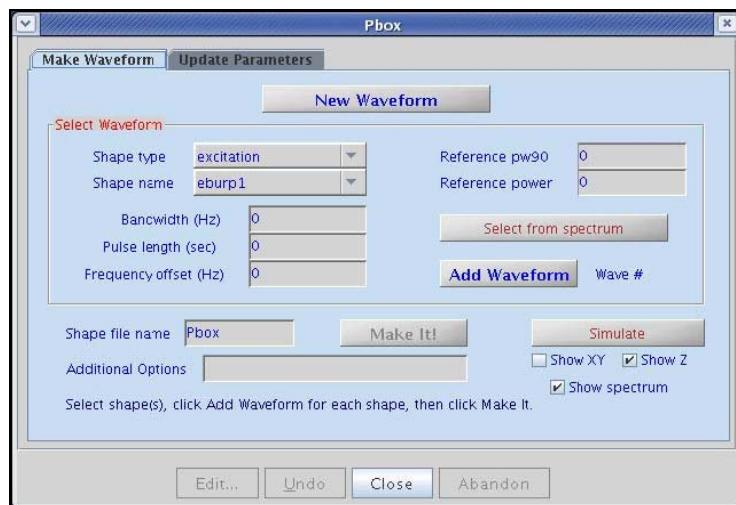

Figure 90 Pbox Make Waveform tab
5. Click the **New Waveform** button and the tools for creating a wave form are displayed in the Pbox window, see Figure 90.